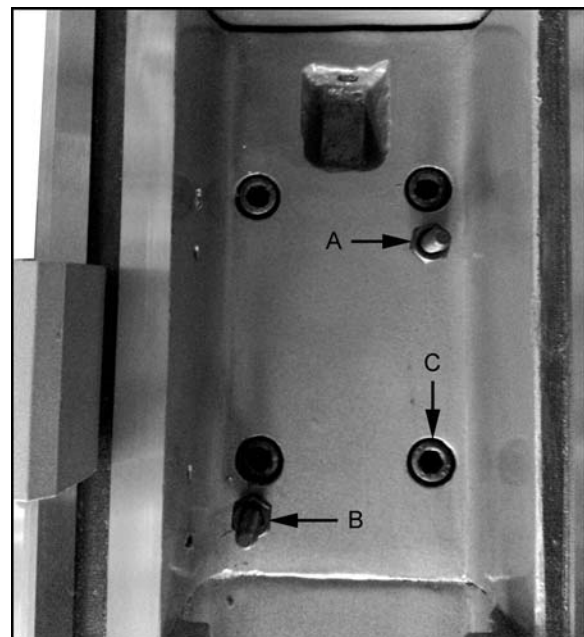

Figure 22
1. Using an open end wrench, tighten the two hex nuts (A, Fig. 22). This will cause the taper pins (B, Fig. 22) to release. Remove the taper pins.
2. Remove the four hex socket cap screws (C, Fig. 22) with a hex key wrench.
3. Remove nuts (A, Fig. 22) from the taper pins (B, Fig. 22).
5. Install four socket head cap screws (C, Fig. 22) and tighten securely.